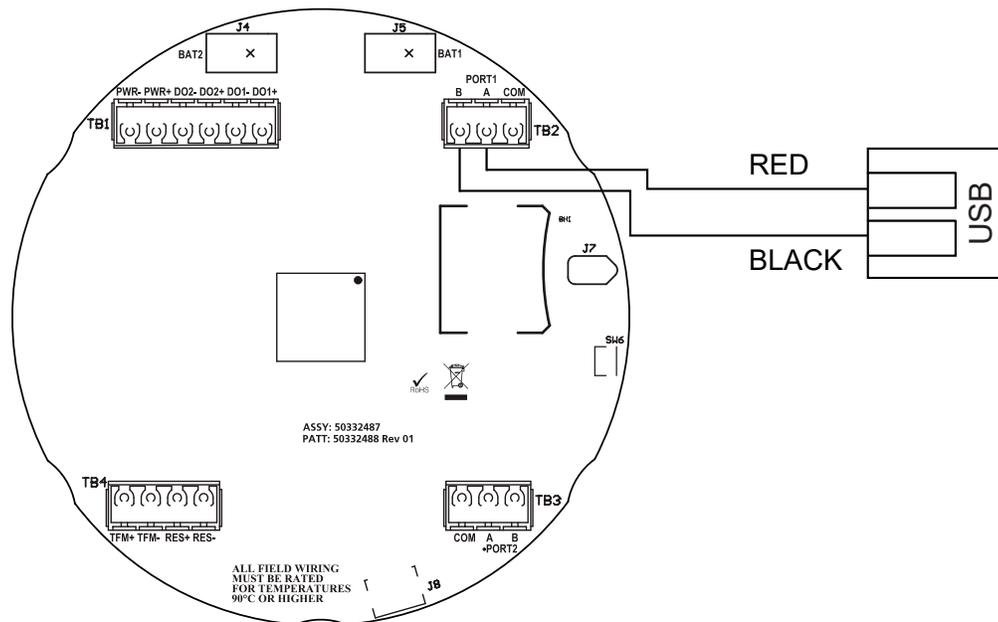

Figure A.9—Wiring of NuFlo USB adapter (required only when purchased as a kit)
4. Connect the plug connector to an RS-485 converter cable (Figure A.9), if applicable (black wire to negative terminal).